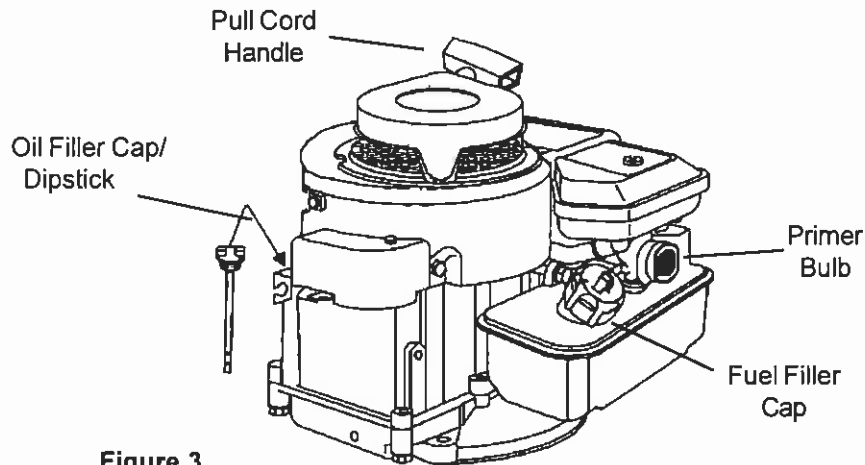

Figure 3
- Put a 4-stroke SAE 10W-30 oil, in the oil filler (Figure 3). Do not overfill, the oil tank capacity is 0.6 litre.